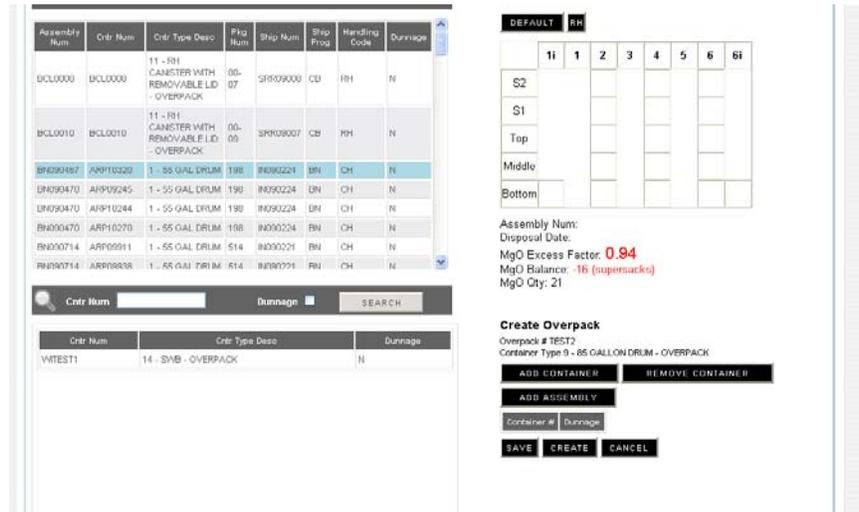

Figure 5-6 - Overpack Screen
H. Click on **Create** button as shown in Figure 5-6.